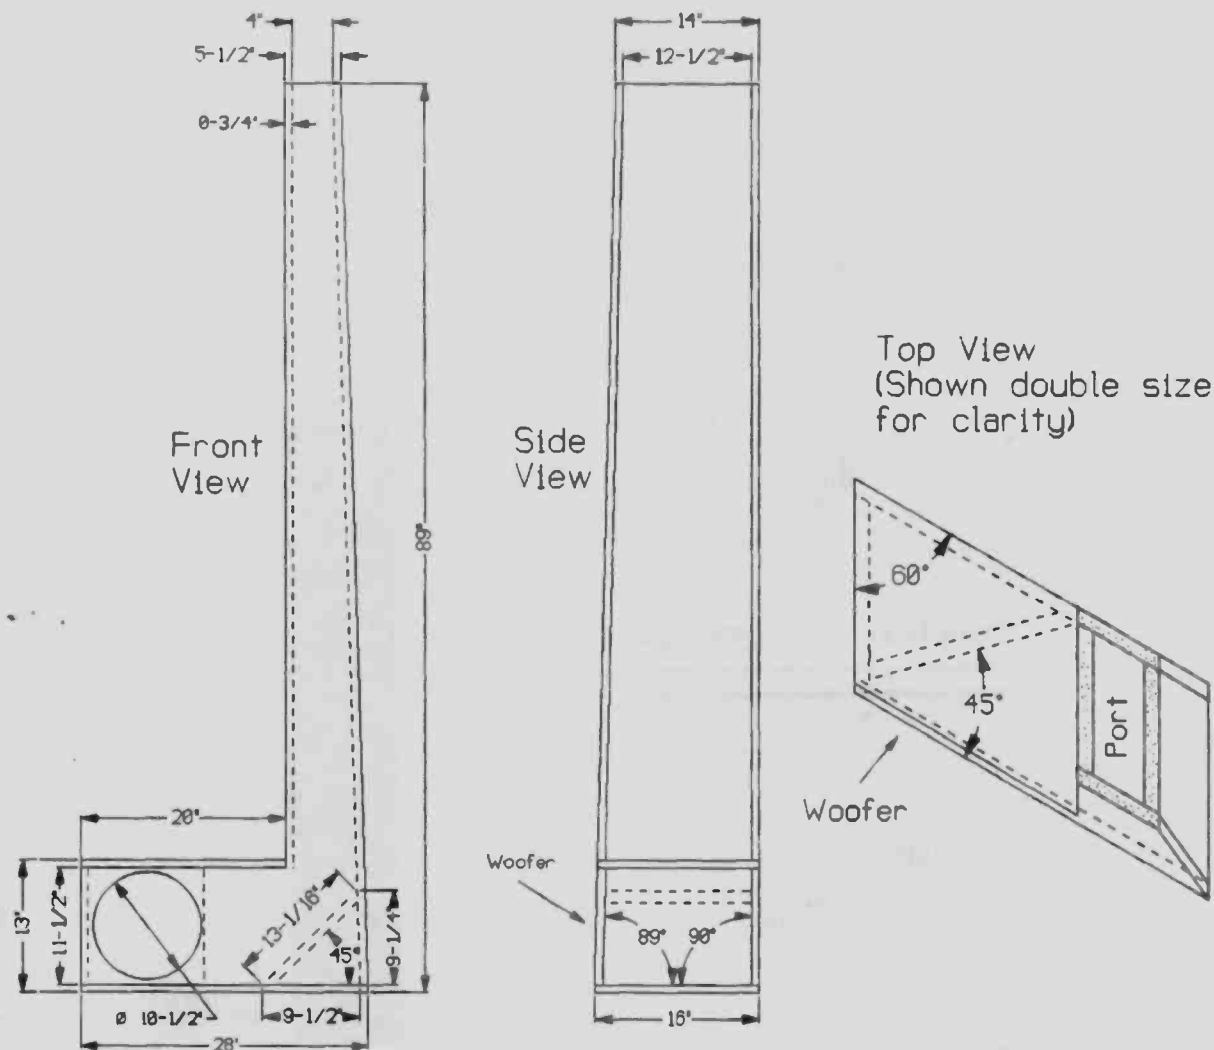

FIGURE 13-18: TL for integrated ESL/TL.
*Figure 13-18* shows construction details of the transmission line that will integrate with the ESL. Probably its most unusual aspect is that it is not rectangular in cross section, but a parallelogram. I did this for both performance and aesthetic reasons.